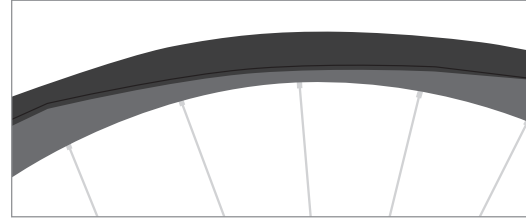

Figure 9
6. Slide a portion of one tire bead over the rim's edge and work your way around the rim until the entire bead is completely inside the rim (Fig. 9).